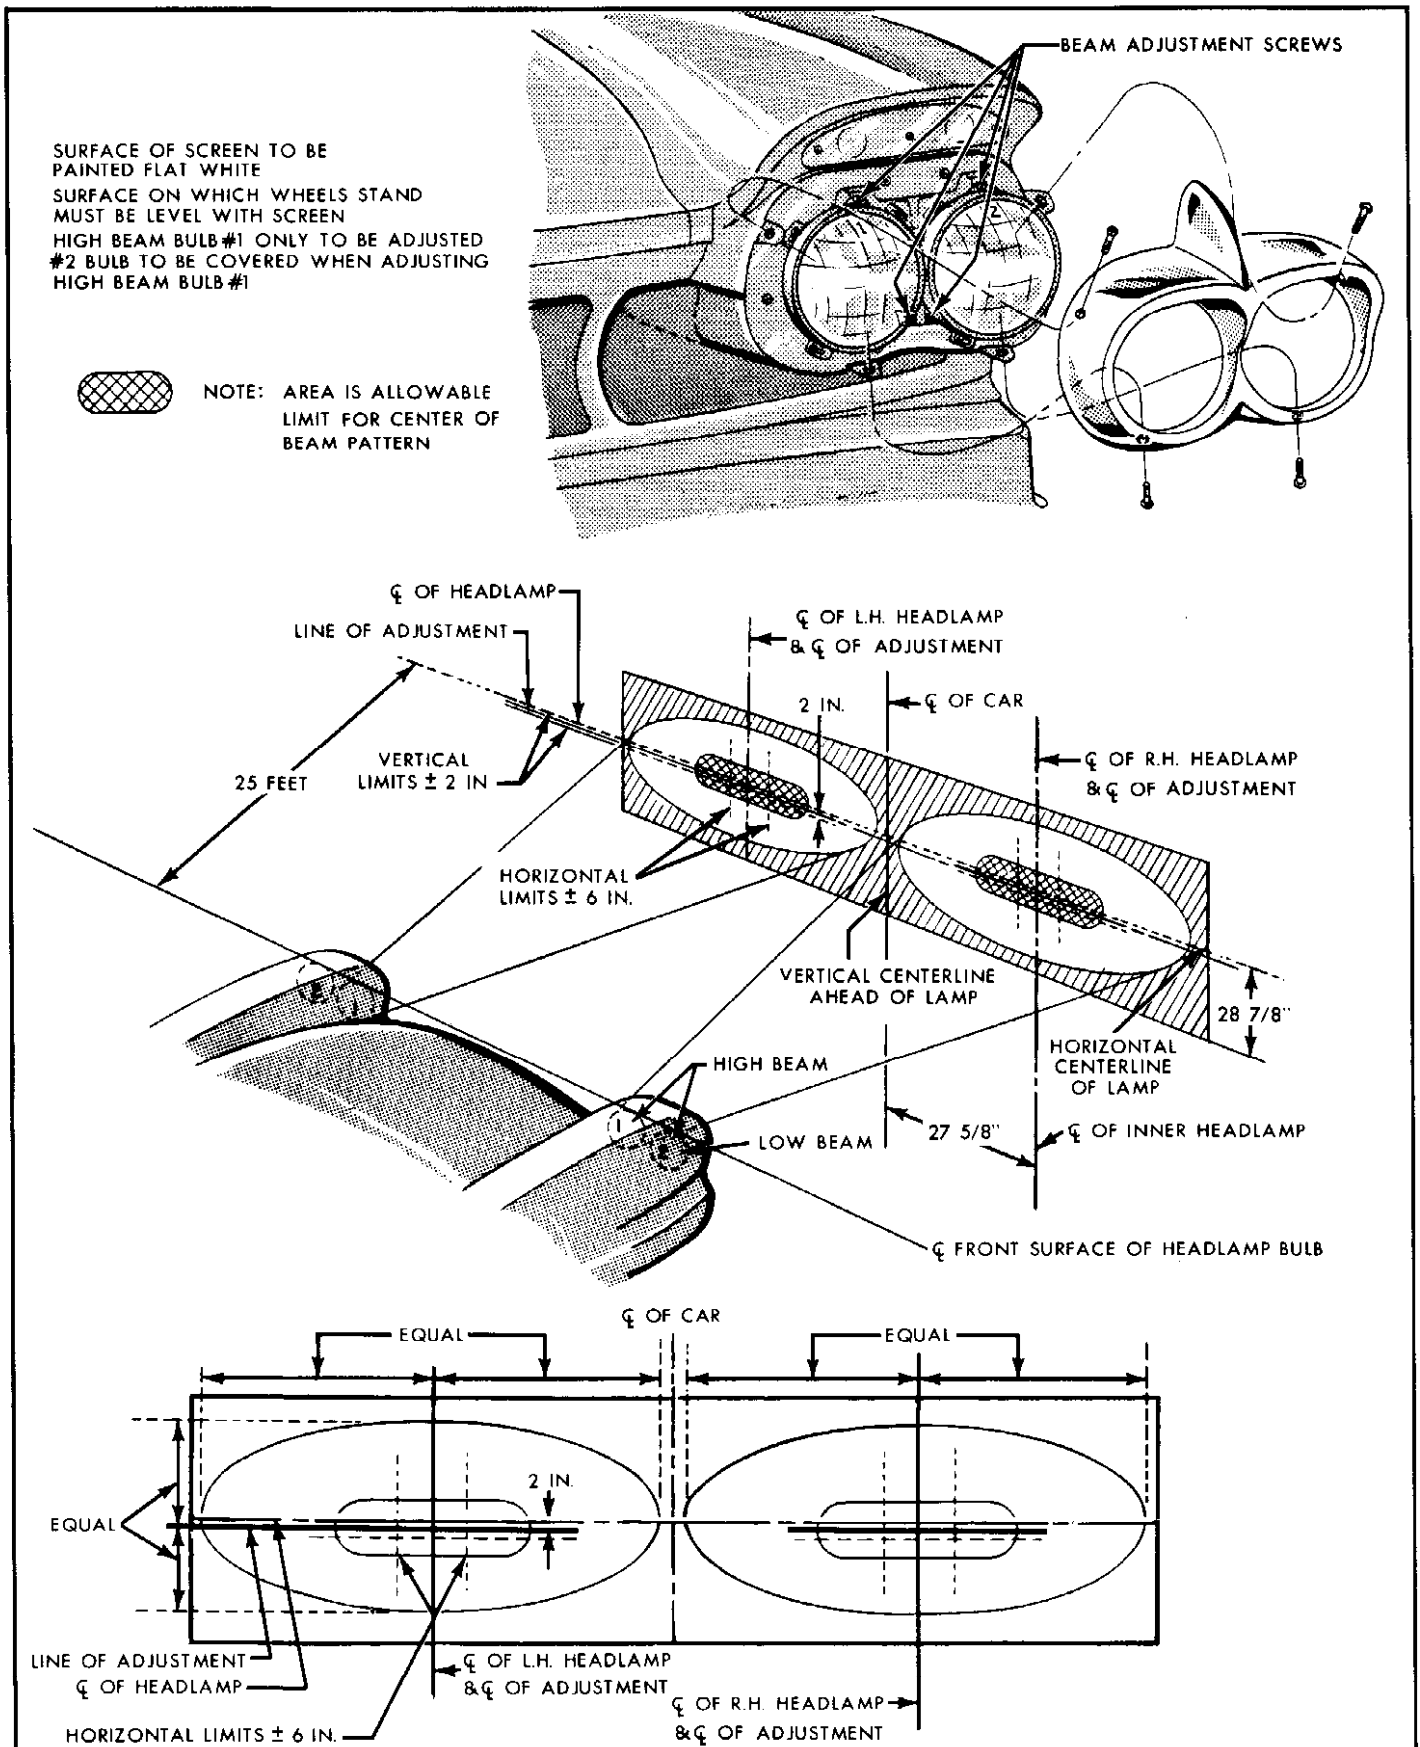
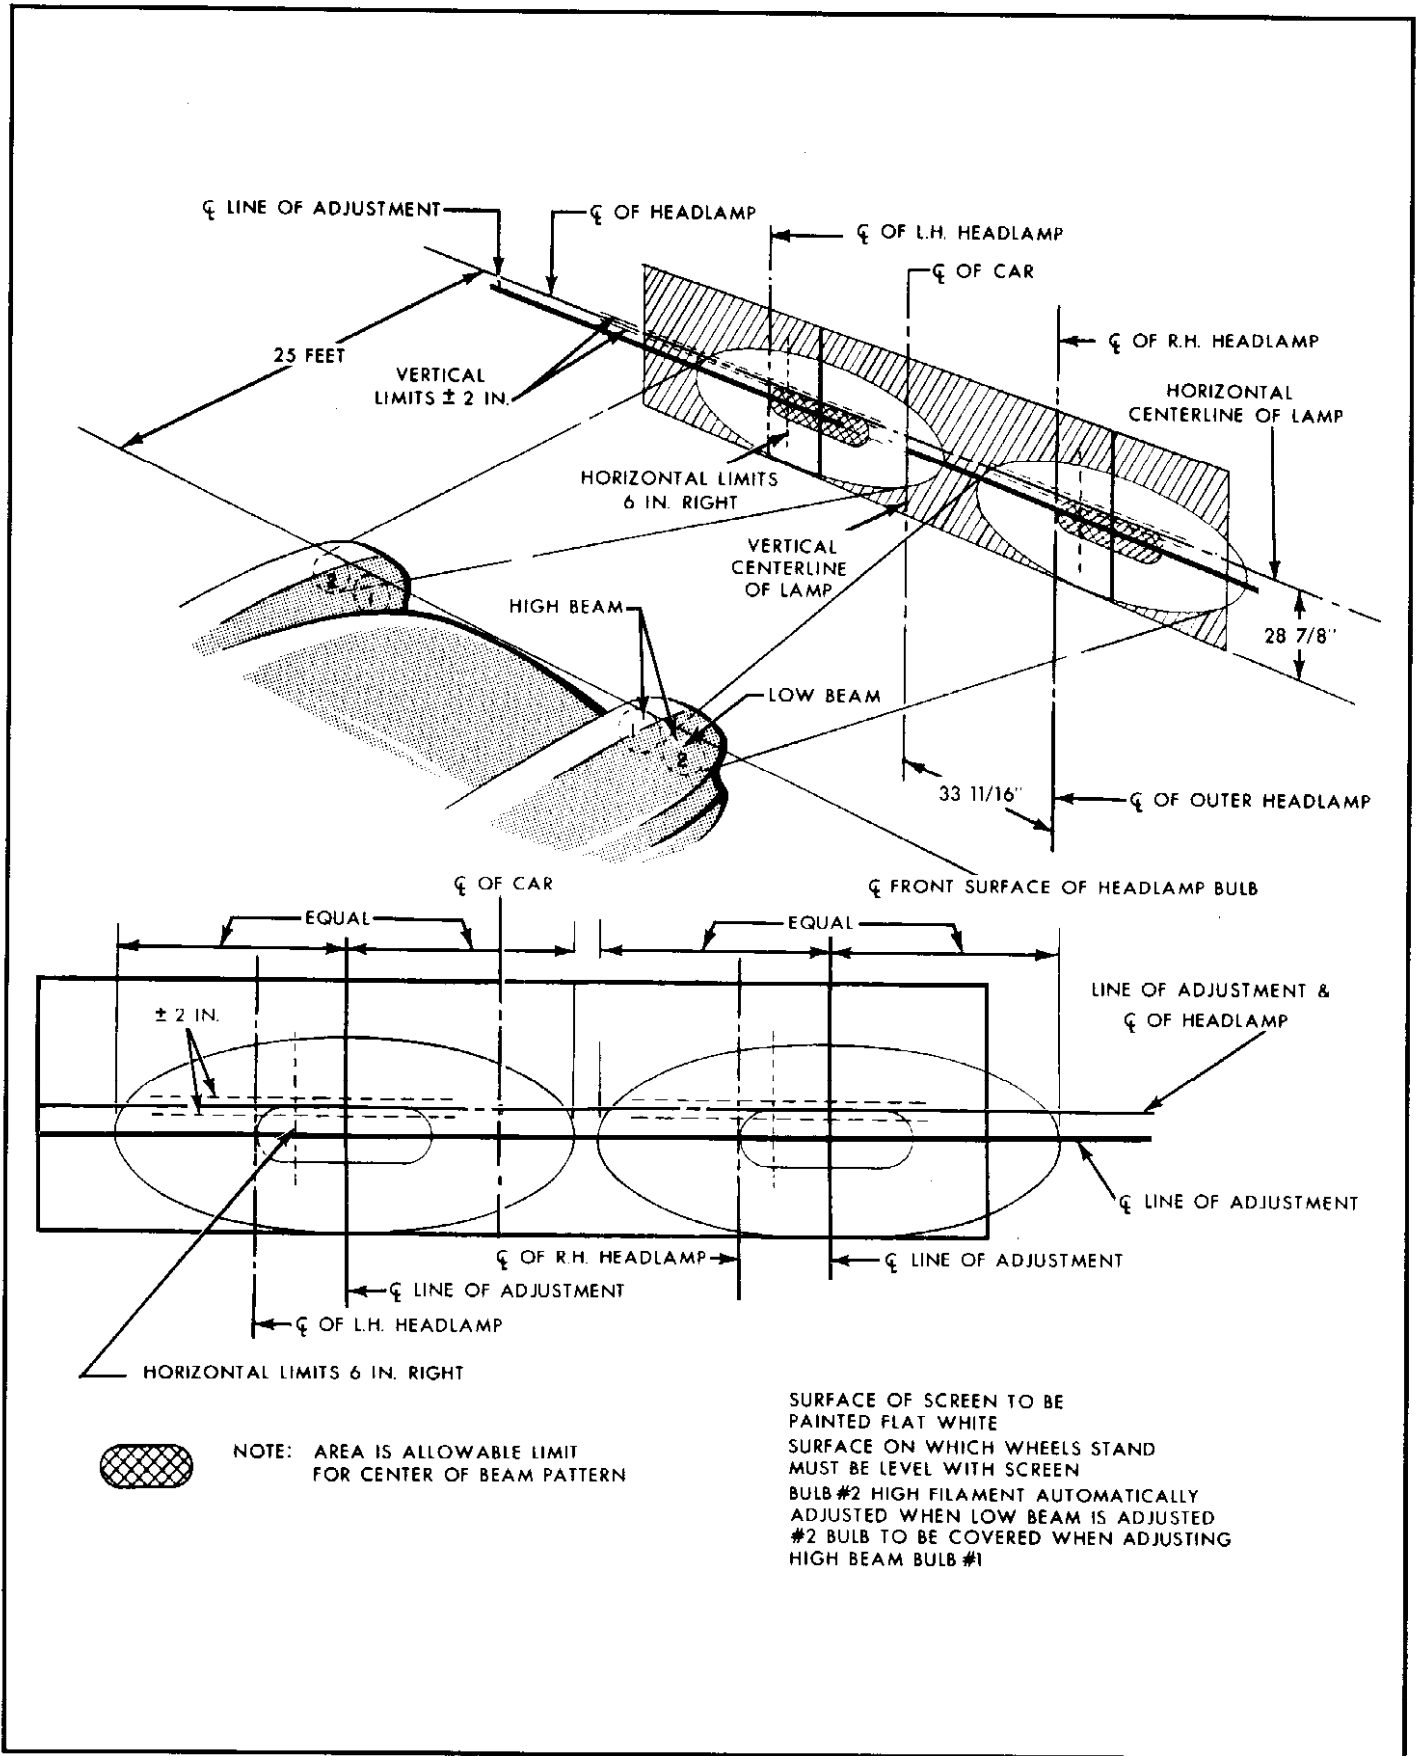
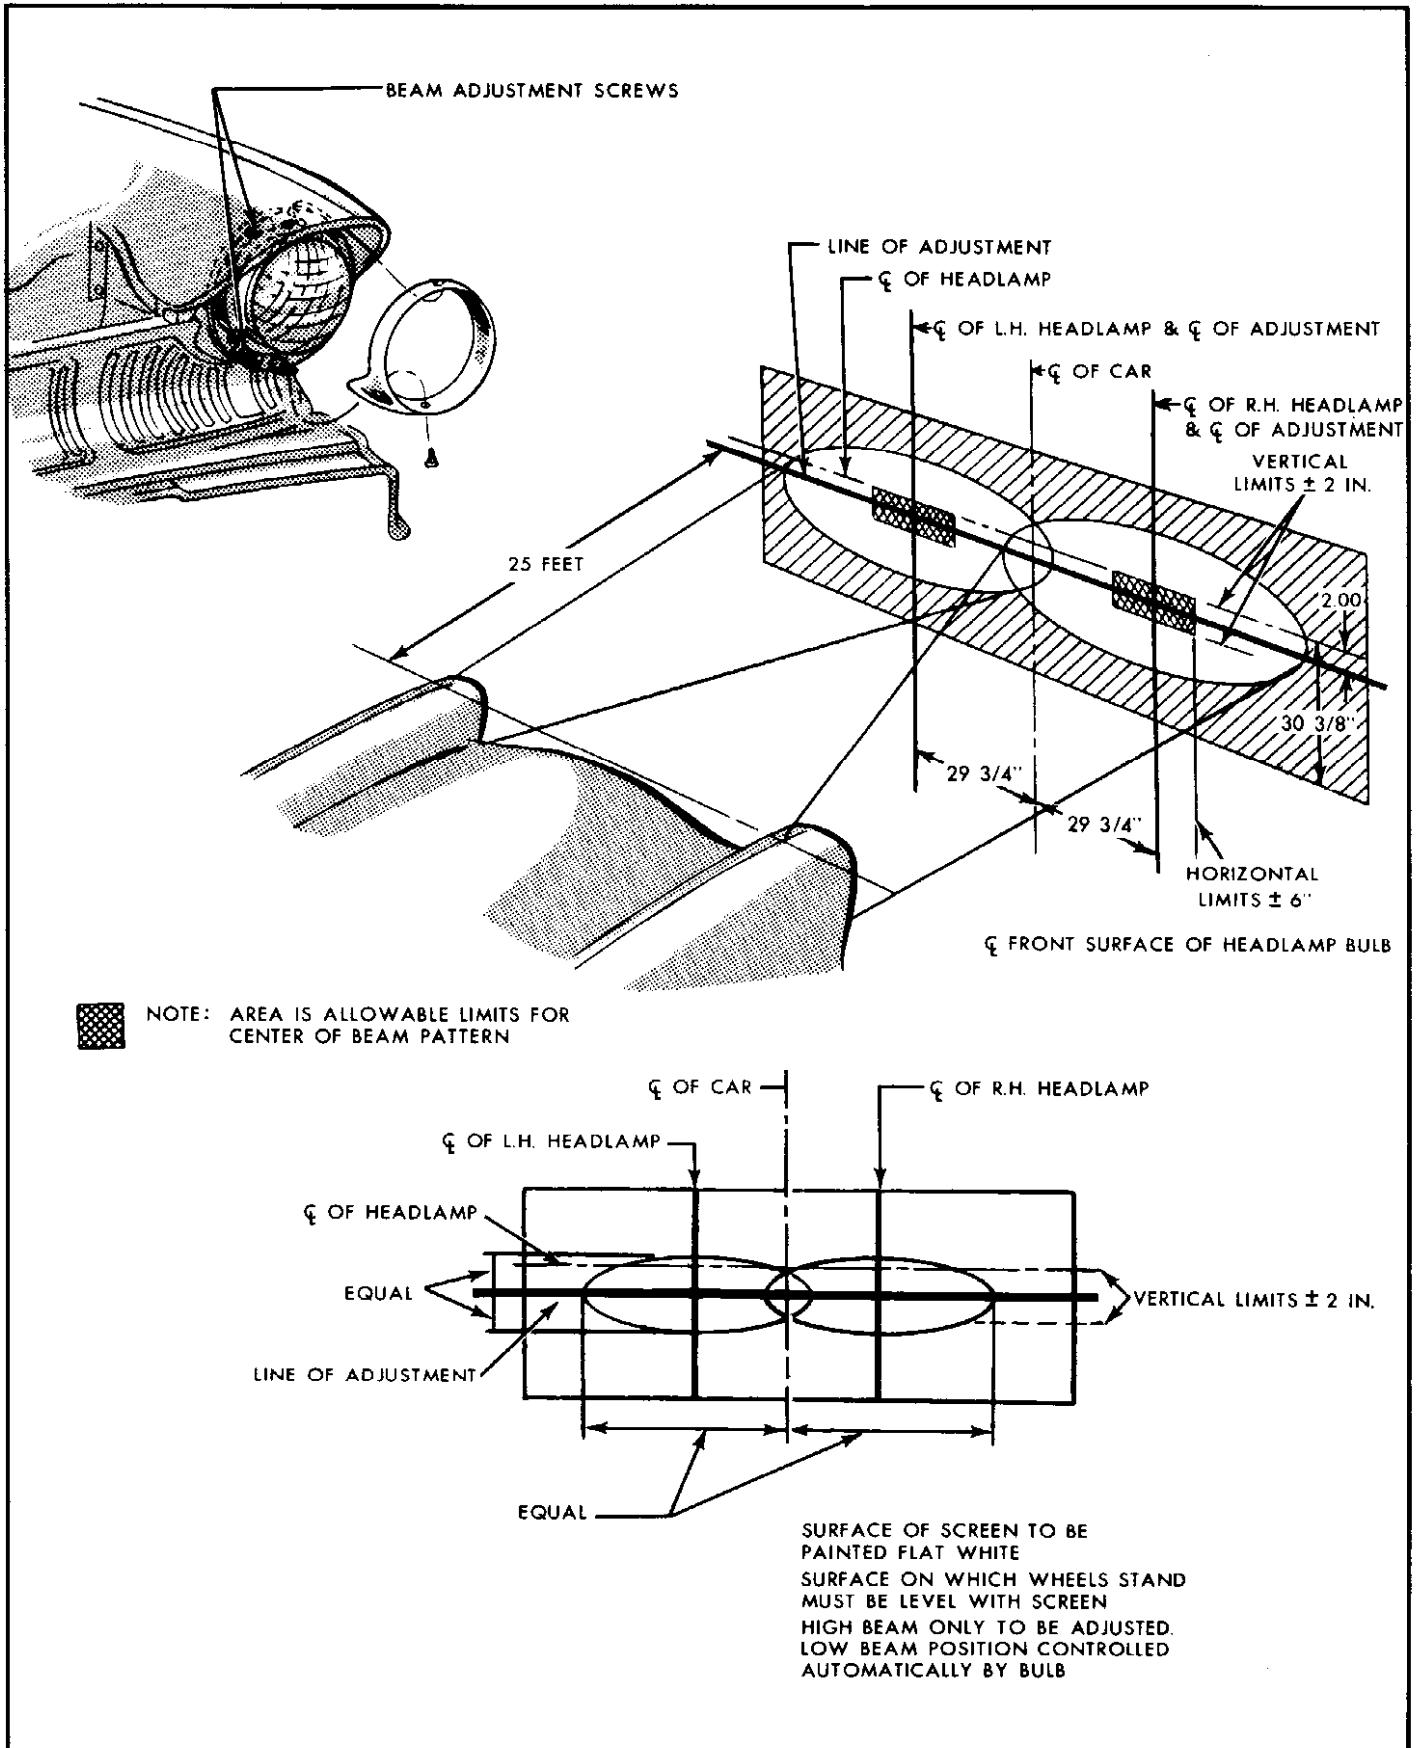

Fig. 11-19—Quadri-Beam Headlamp Adjustment (No. 1 High Beam)
Fig. 11-20—Quadri-Beam Headlamp Adjustment (No. 2 Low Beam)
Fig. 11-21—Standard Headlamp Beam Adjustment
Two adjusting screws on each headlamp mounting flange provide means of proper aiming of the light beams. The vertical adjusting screw is at the top of each headlamp. The horizontal adjusting screws are located adjacent to each other within each headlamp flange assembly. See figure 11-19 and figure 11-20.
below the horizontal centers of the headlamp bulbs. See figure 11-21. For Quadri-Beam headlamp adjustment see figure 11-19 and figure 11-20.
10. On models equipped with Quadri-Beam headlamps see figure 11-19 and figure 11-20.